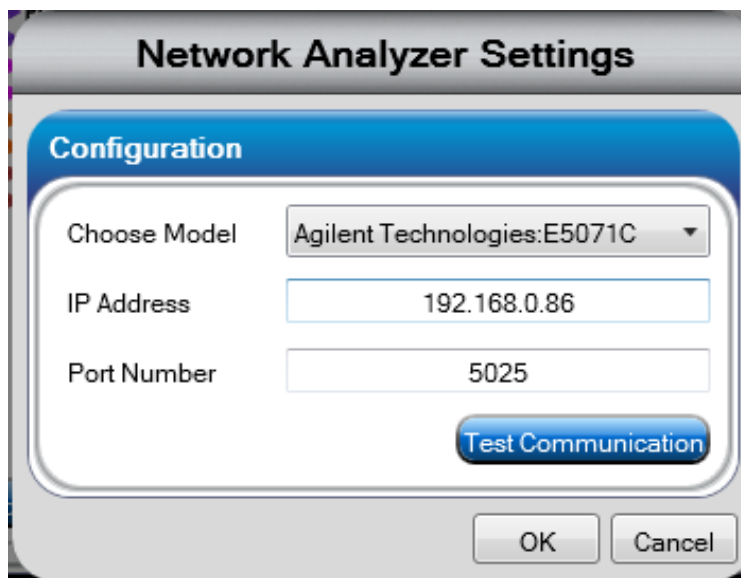

Figure 3-13: Network Analyzer Settings Window
13. The *Network Analyzer Settings* window displays, as shown in Figure 3-13.